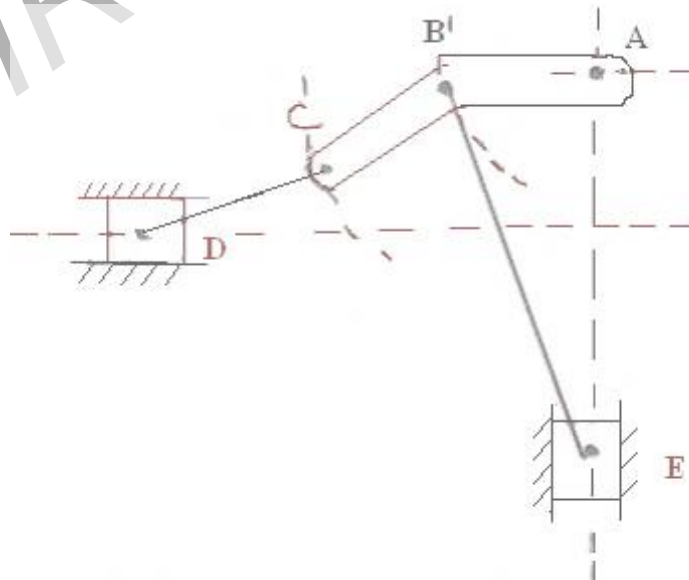

Figure 5
- Figure 5 shows the mechanism of a pneumatic riveter. The arms AB and BC are each 175 mm long, link BE is 500 mm and link DC is 325 mm long. The centre line of the piston is horizontal and 200 mm below A and AC is vertical, BE makes an angle of 12° with the vertical. Find the velocity ratio between D and the ram E when AC is vertical, and the efficiency of the machine if a load of 2.5 kN on the piston causes a thrust of 5 kN at E. Use instant centre method. [16]